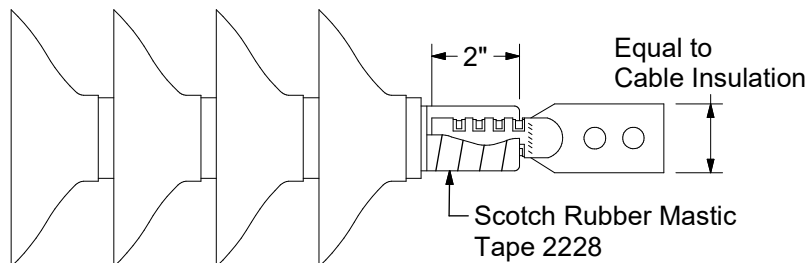

Figure 12
- 14. Wrap Scotch Rubber Mastic Tape 2228 half-lapped around the exposed conductor between the cable insulation and lug. Build the mastic up to the insulation O.D. Cover 2 inches of the lug barrel. (Figure 12)